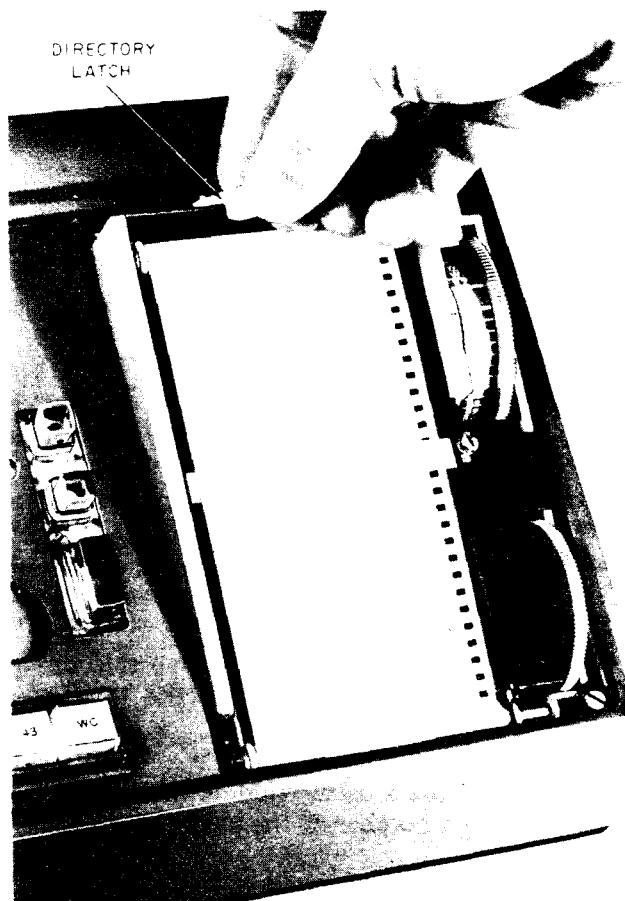

Fig. 8 — Unlatching 1A Tape Cartridge
- (3) Rotate end of directory latch upward (Fig. 8).
- (4) Grasp directory latch and lift 1A tape cartridge out of CALL-A-MATIC set.